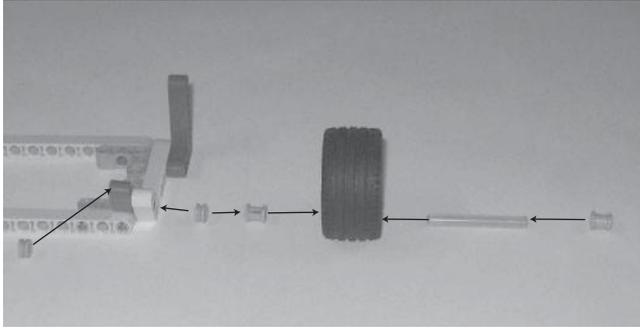

Figure 9.18
Step 4—Assemble a new wheel using a rim and tire and add the wheel to the rear chassis using a 5M cross axle, two bushings, and two half-bushings as shown in Figure 9.18.